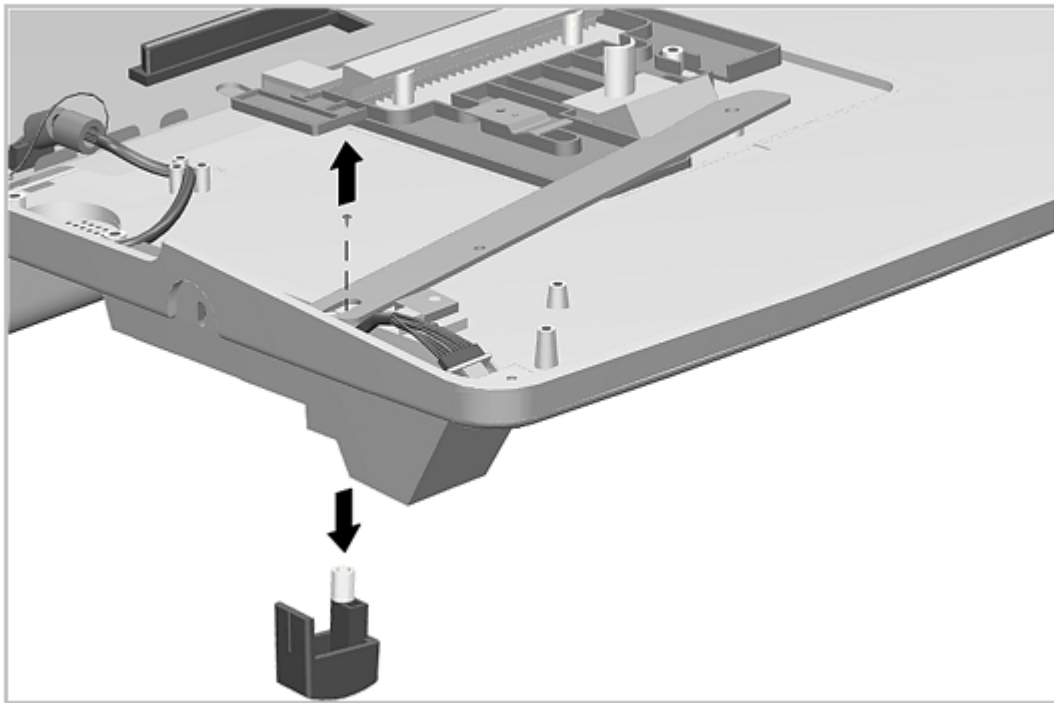

Figure 7-38. Removing the Docking Lever
3. Remove the screw and washer that connects the docking bar to the slide block and docking lever (Figure 7-38).